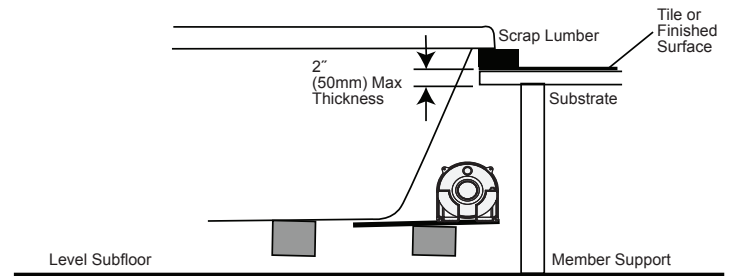

Figure 10
- 8** Install the unit, inserting the equipment- end first, lowering the bathtub into the opening as shown in the illustration (Figure 10).